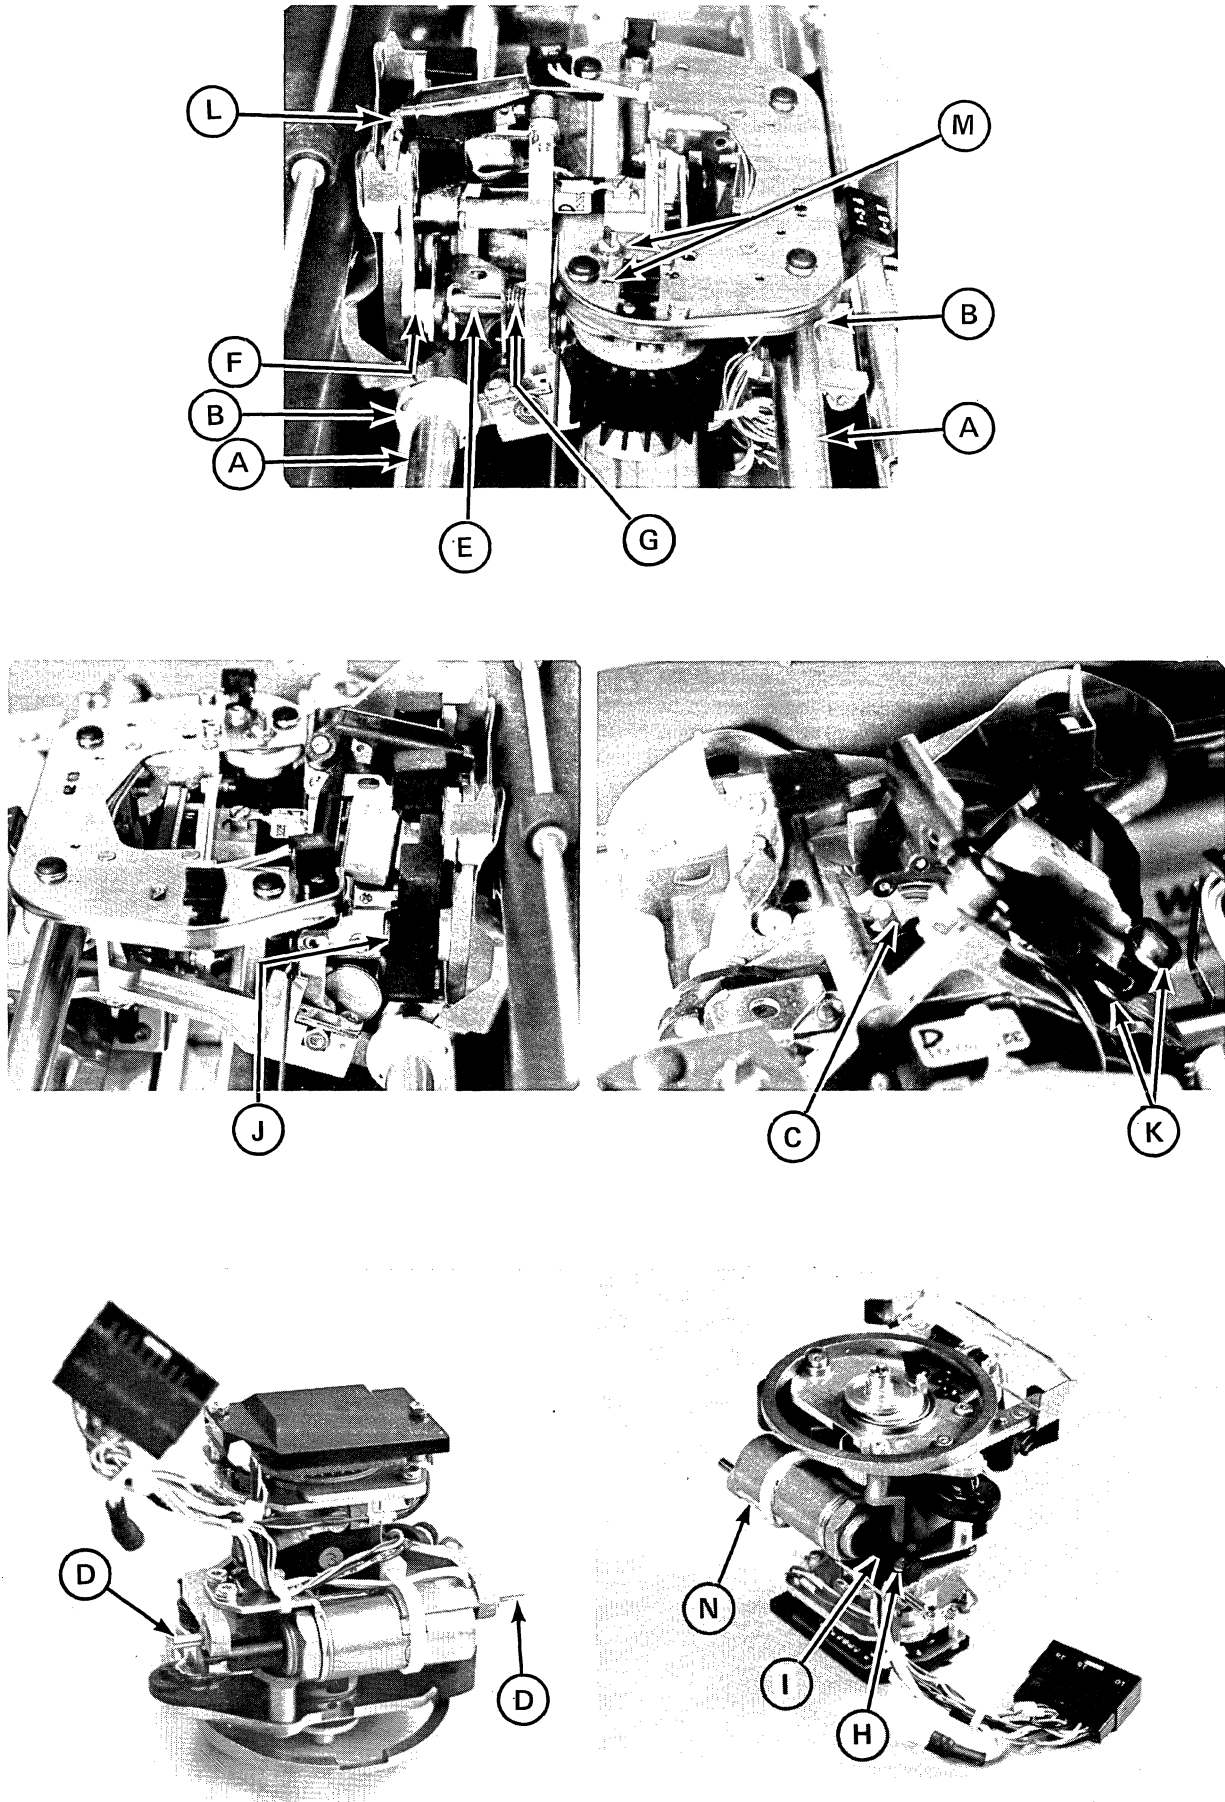

Figure 2-3. ECS CARRIAGE SYSTEM LUBRICATION POINTS
Refer to Figure 2-3.
1. Carriage Rails (A - Fig. 2-3) - Clean the rails with alcohol pads; then wipe dry.
2. Carriage Rail Bearings (B - Fig. 2-3) - Put 4 to 5 drops of light oil on each rail on each side of the carriage. Move the carriage back and forth slowly by hand, allowing the oil to saturate the lubrication felts inside each carriage bearing. (A properly lubricated bearing will leave a light film of oil on the carriage rail as the carriage is moved.)
3. Primary Slider (C - Fig. 2-3) - Apply silicone lubricant to the inside edges of the slot in the primary slider where it is contacted by the peg on the double crank.
4. Pivot Pins (D - Fig. 2-3) - Apply multipurpose grease to each of the two pivot pins before the pivot bushings are installed on the pins.
5. Bell Crank Pivot Shaft (E - Fig. 2-3) - Apply a film of multipurpose grease to the length of the shaft in contact before assembling each part on the shaft.
6. Steel Washer (F - Fig. 2-3) - Apply a film of multipurpose grease between the steel washer and the double crank during reassembly.
7. Bell Crank Return Spring (G - Fig. 2-3) - Press a light film of multipurpose grease between the coils of the spring. Apply a dab of multipurpose grease at one end of the spring where it contacts the bell crank, and at the other end where the spring contacts the pivot frame.
8. Bell Crank Arm (H - Fig. 2-3) - Apply a dab of multipurpose grease to the tip of the arm where it contacts the solenoid plunger.
9. Solenoid Plunger (I - Fig. 2-3) - The shaft of the plunger must be completely clean of any lubricant to ensure free movement of the plunger within the solenoid. (There will be a small amount of grease inside the notch of the plunger where it is contacted by the tip of the bell crank arm - H.)
- 10) Latch Pivot Shaft (J - Fig. 2-3) - Apply multipurpose grease to the pivot shaft before the latch lever is installed on the shaft.
- 11) Hammer Armature Pivots (K - Fig. 2-3) - Remove the two rubber caps covering the grease chambers, and fill the caps 1/4 to 1/2 full with Polyoil. Replace the rubber caps.
- 12) Print Hammer (L - Fig. 2-3) - DO NOT lubricate the print hammer. If a cloth ribbon is being used, make sure the hammer is clean.
- 13) Ribbon Drive System (M - Fig. 2-3) - Apply one drop of light oil to the idler gear shaft and to the bushing around the base of the drive key.
- 14) Solenoid Seat (N - Fig. 2-3) - When the solenoid is being installed, apply a layer of thermal compound on the seat that cradles the solenoid in the pivot assembly. This is critical to prevent overheating of the solenoid.